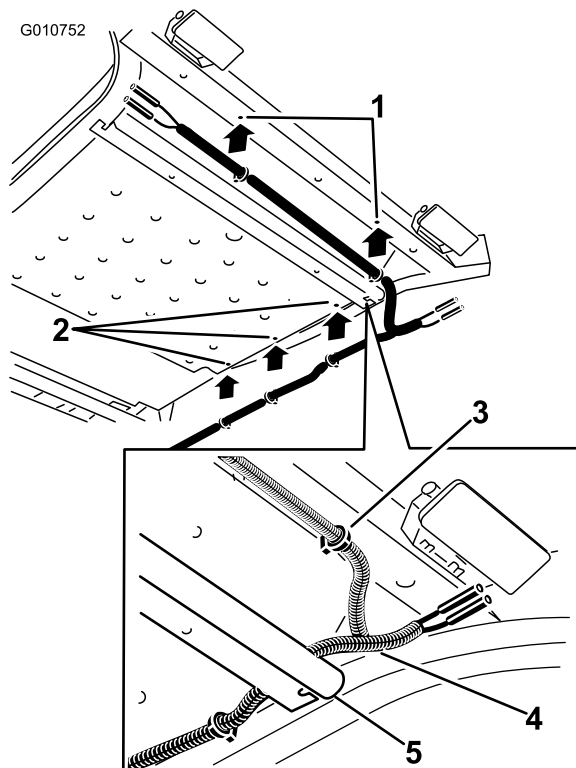

Figure 4
Note: Model year 2014 and newer machines, move the retaining clips to align with the holes in the floor pan (Figure 4).
2. Locate the accessory harness in loose parts. Locate the end of the harness with two retaining clips between two sets of bullet connectors. Route this end of the harness forward over the front support bar of the lift assembly to the front head lamps (Figure 4).